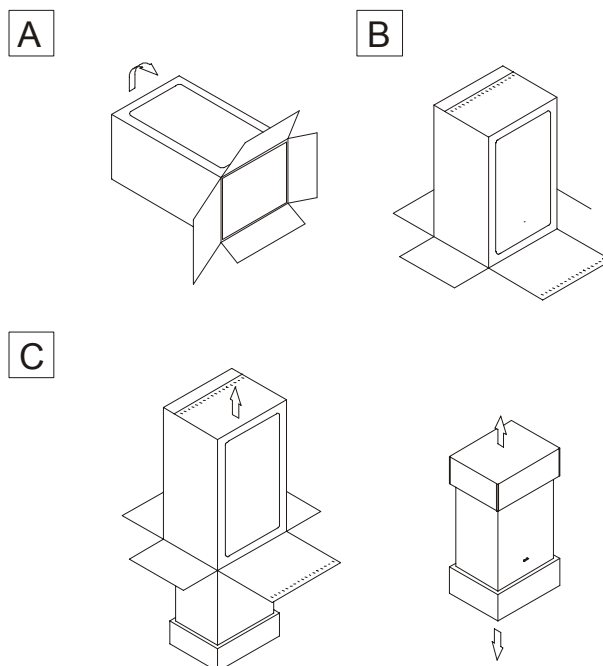

Fig. 2
- Set the packed boiler (fig. 2) down on the floor making sure that the arrow is pointing upwards and remove the sticking tape. Open the 4 flaps outwards.